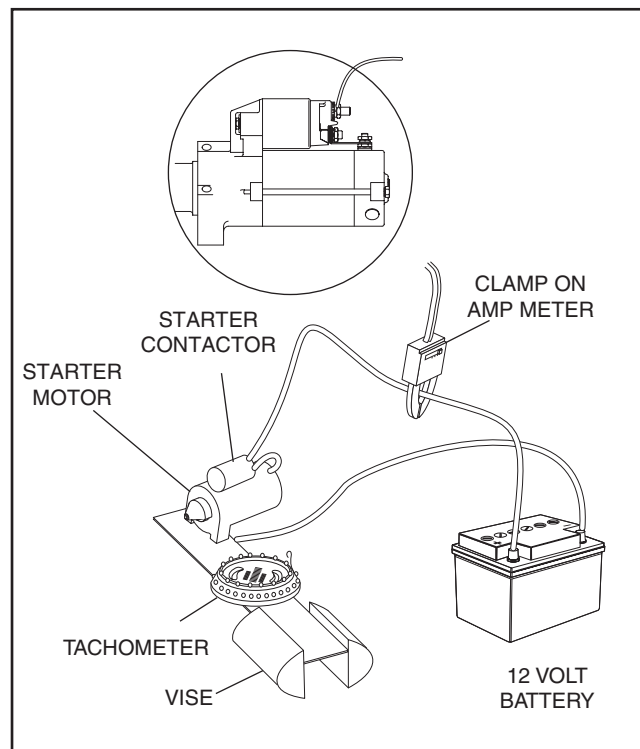

Figure 7-26. – Testing Starter Motor Performance
It is recommended that the Starter Motor be removed from the engine when testing Starter Motor performance. Assemble starter to test bracket and clamp test bracket in vise (Figure 7-26).
2. Connect jumper cables and clamp-on ammeter as shown in Figure 7-26.